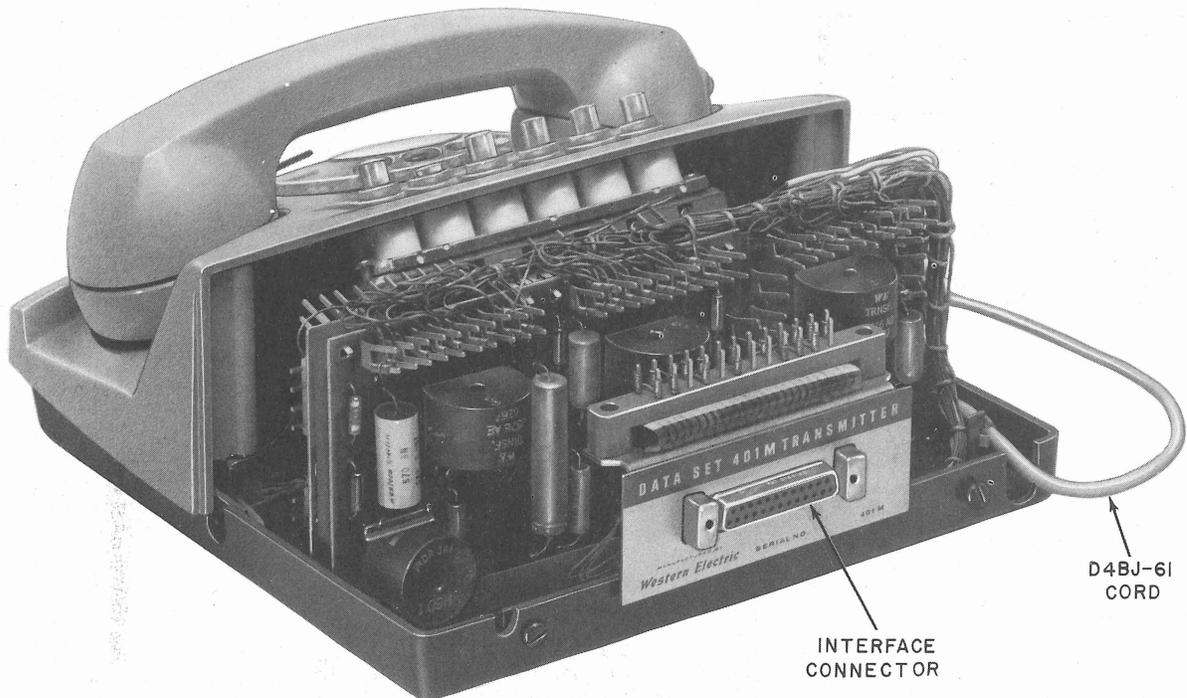

Fig. 4—Data Set 401M-L1/4 -L1/2/3, -L1/2/4, -L1A/2/3, or -L1A/2/4—Rear Cover Removed
- Three or four modular circuit packs as required for data sets 401M-L1/4, -L1/2/3, and -L1/2/4 (Fig. 4).